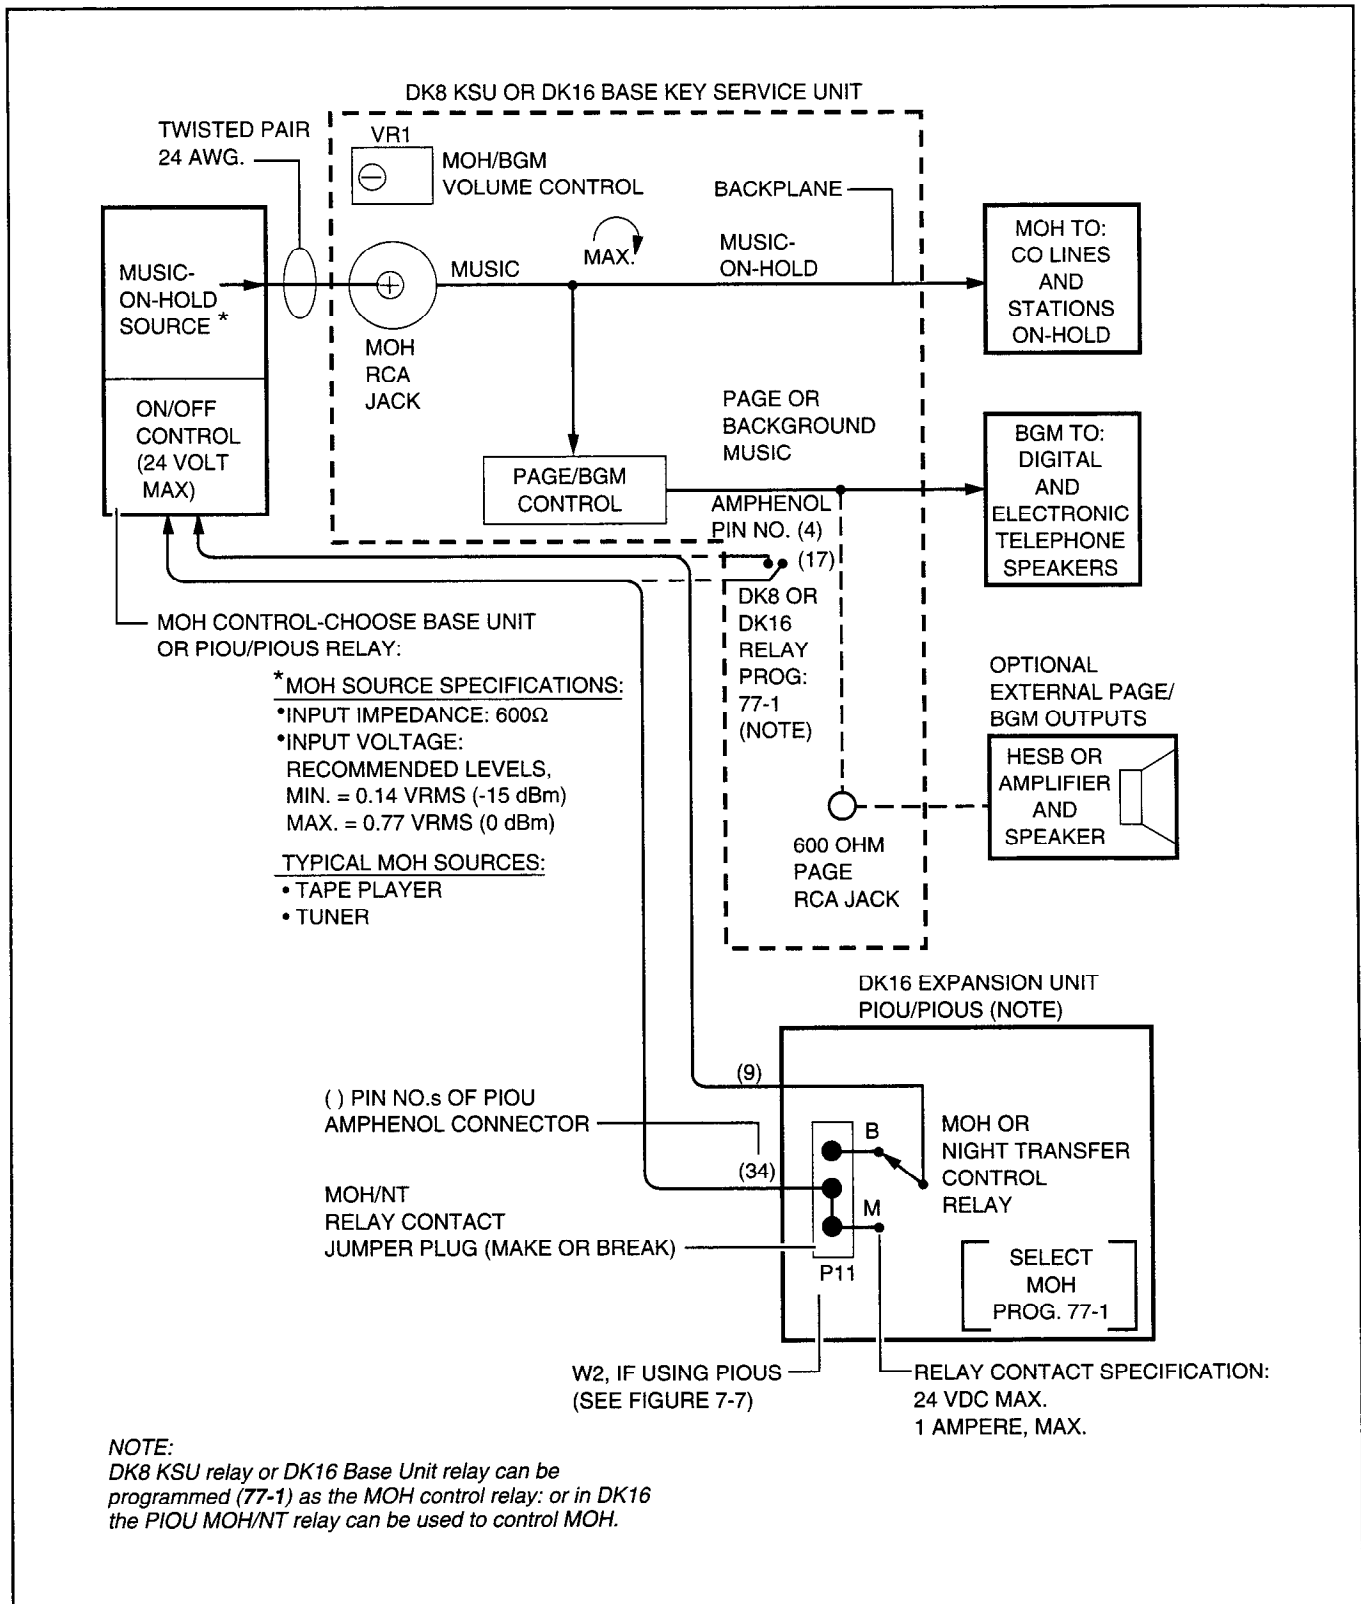

FIGURE 7-1
2.00 STRATA DK8 and DK16 systems provides a Music-on-Hold option for CO lines and digital, electronic (DK16 only) and standard telephones connected to the system. A variety of Background Music options are also provided (refer to Figure 7-1).
2.12 Music-on-Hold Installation. Install the Music-on-Hold option in accordance with the following steps (refer to Figure 7-1):
2.22 MOH Source as Background Music Installation (DK8 and DK16). Install the MOH/Background Music option in accordance with the following steps (refer to Figure 7-1):